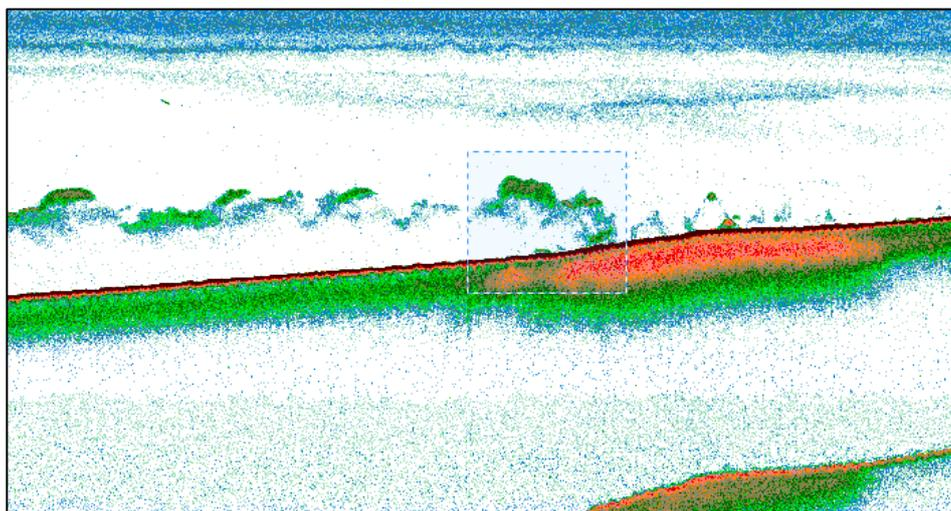

Figure 4. A selection in an echogram made using the Rectangle tool.
3. Click and drag on the echogram to form a rectangular selection like the one in Figure 4.